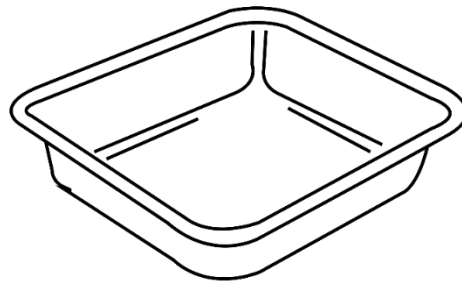

Fig. 1
- 1** Fig. 1 shows a lunch box made from plastic.